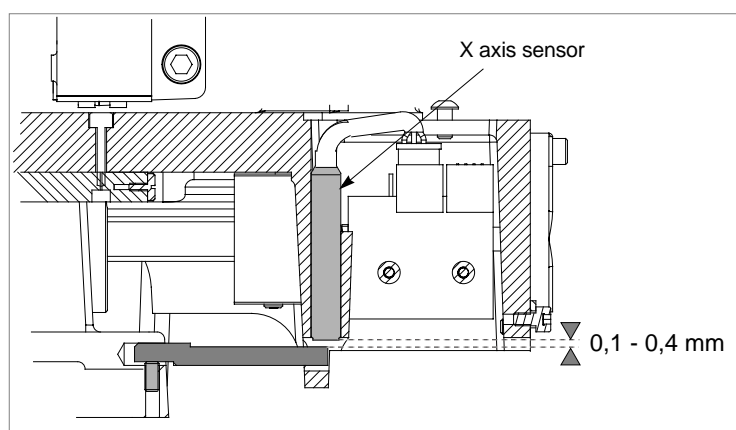

Fig. 44
- 7) remove the faulty sensor (M1) and replace with a new one, turning until it almost touches the underlying pin (fig. 44). Tighten the grub screw (M2).
- 8) connect the sensor connector (J).